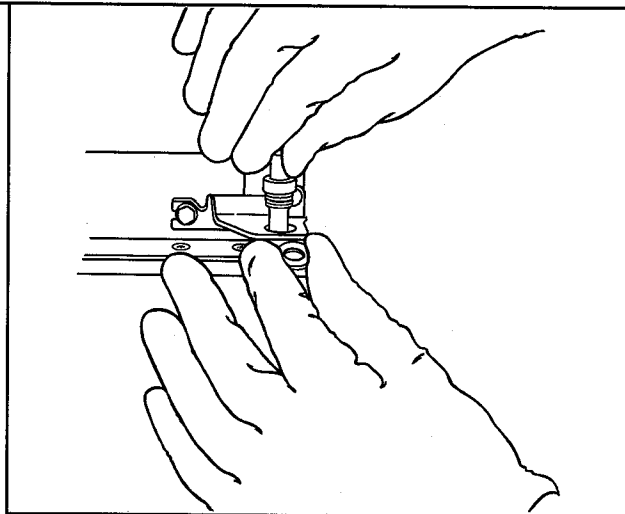

Figure 21
b. Holding door shut, reinstall center hinge pin so pin fits through bracket and into door socket. See Figure 21.